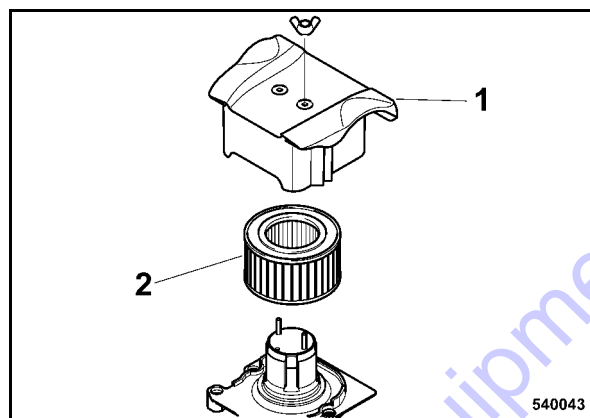

Fig. 71
- Remove cover (1) (Fig. 71), carefully take out the air filter (2).
- Insert the air filter (2) (Fig. 71) and close the air filter cover.